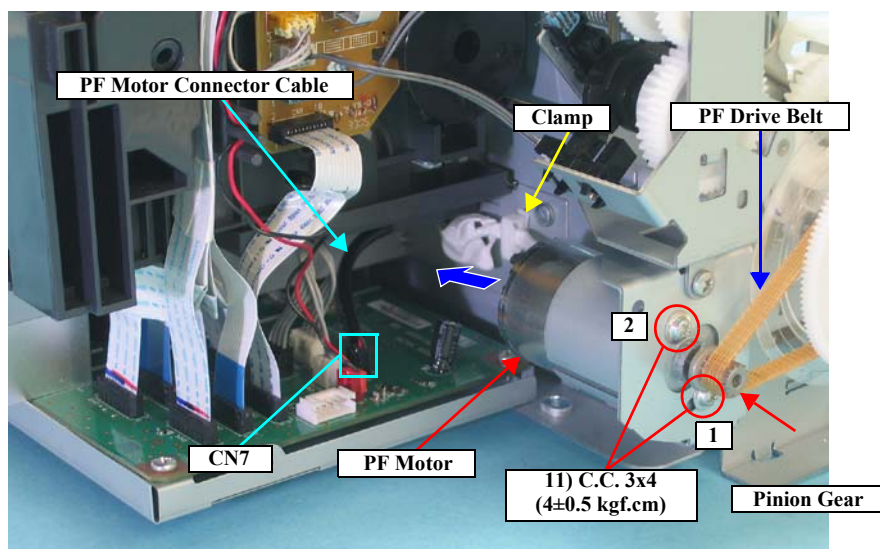

Figure 4-134. Removing the PF Motor
- Tighten the screws in the order shown in Figure 4-134.